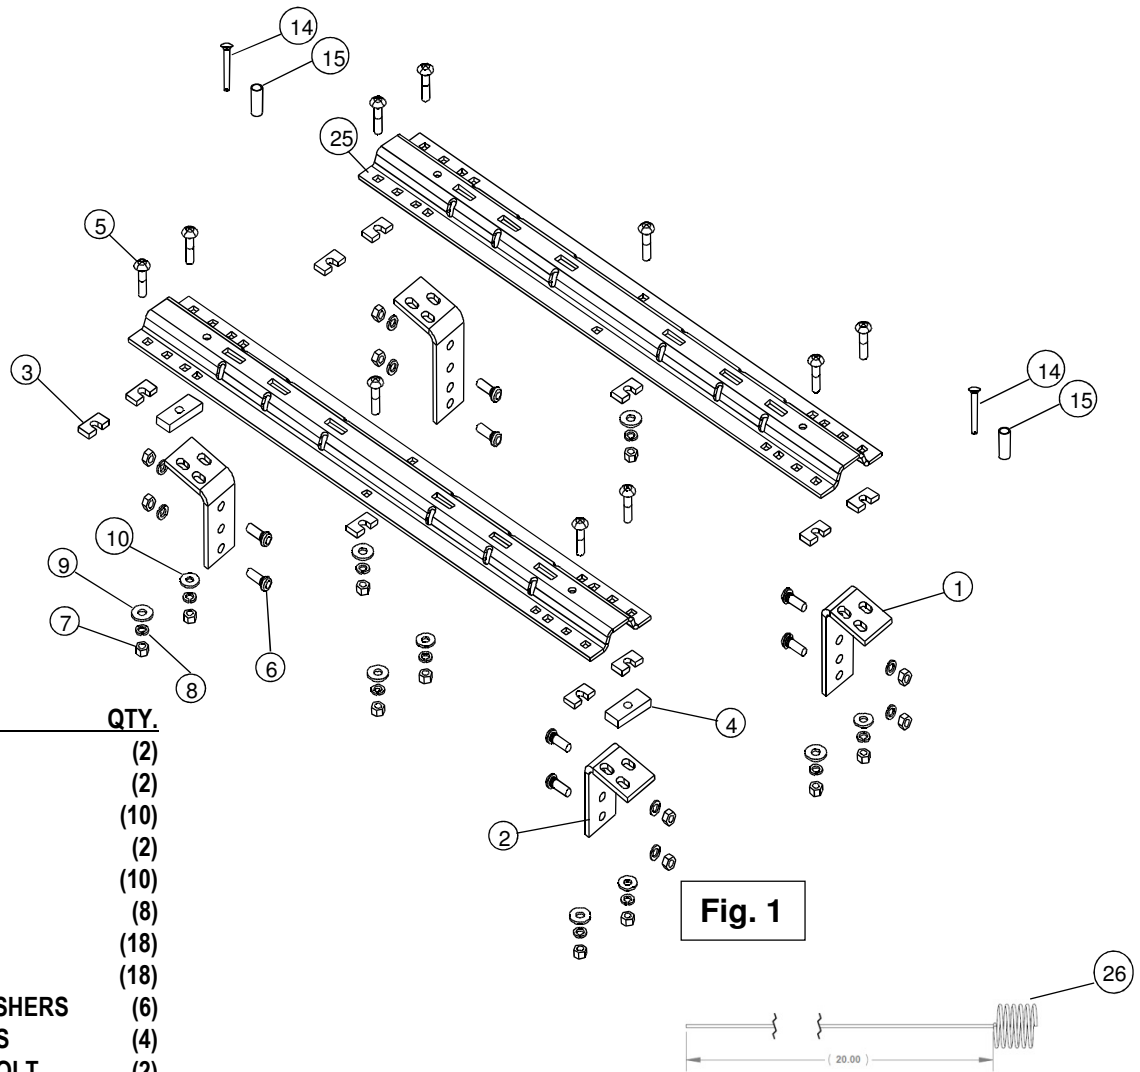

Fig. 1
1. The following instructions should be used to mount the fifth wheel. Care and attention to detail will ensure a quick quality installation. Check parts against parts list to become familiar with parts in kit. (See Fig. 1)